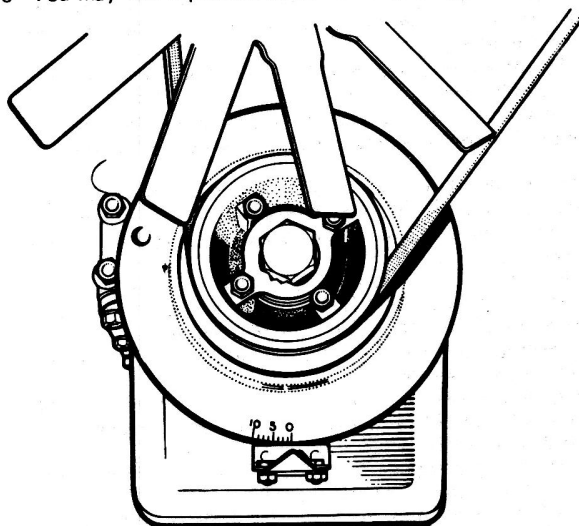

Fig.4.5. Ignition timing scale on the crankshaft damper
- 1 The first step is to find out what timing marks are provided for the car. Later model cars have the timing marks engraved on the front face of the crankshaft damper and are used in conjunction with a pointer bolted to the crankcase. This method is illustrated in Fig.4.5, the zero line, when aligned with the pointer, indicates Top Dead Centre (TDC) of No.6 (front) piston and the graduations to the left are in degrees (up to 12 degrees in the case of the 240 model) before TDC. If a pointer cannot be seen below the crankshaft damper it means that your engine, probably an early model, is timed from a mark engraved on the plain portion of the starter ring. Look at the bottom of the clutch housing and there you will see a cover rivetted to the housing, push the cover to one side and the starter ring will be visible as also will a line on the clutch housing. When the line on